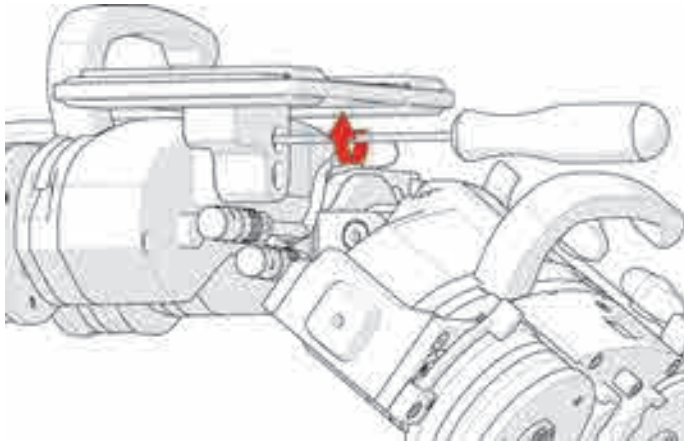

Figure 4-138 Tighten screws
2. Tighten the two backpack screws using the supplied 3 mm hex driver (see Figure 4-138 on page 195).